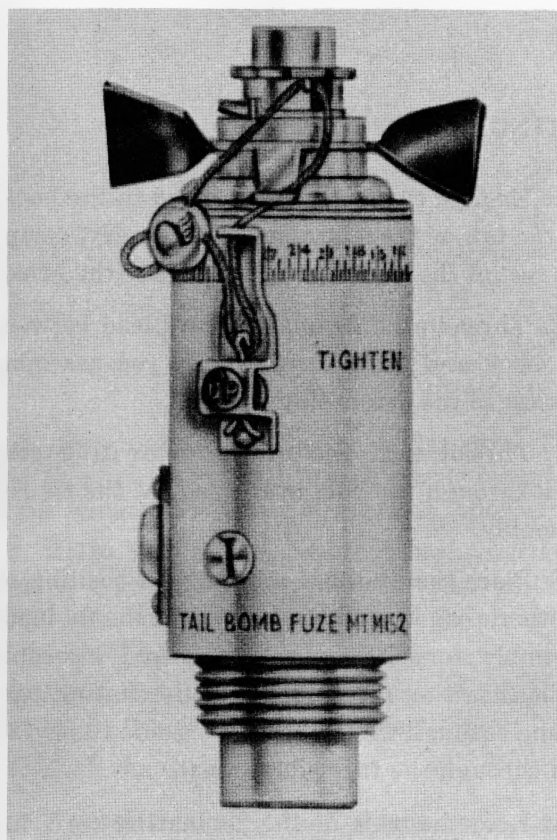

Figure 5. M152A1 tail fuze.
c. M152A1 Tail Fuze. Two M152A1 mechanical time tail fuzes (fig. 5) are used with the M43 incapacitating BZ bomb cluster. The M152A1 fuze is a combination mechanical time and impact fuze. It is a delayed-arming-type fuze (TM 9-1980) with both an arming pin and arming vane. The arming vanes are painted red to indicate that the fuze is a tail fuze.